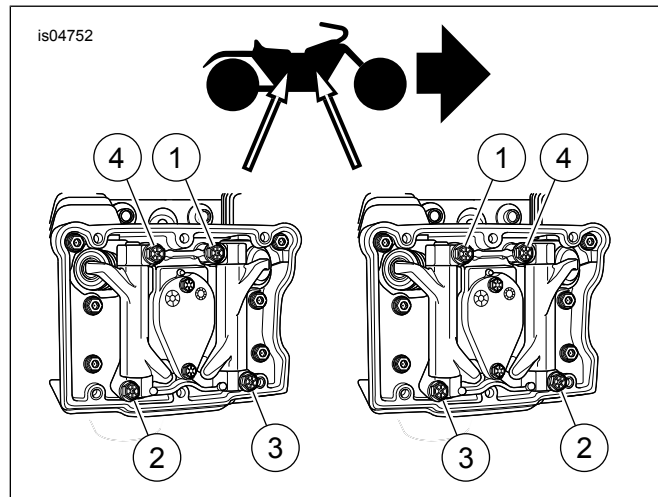

Figure 4. Loosen Four Rocker ARM Bolts 1/4 Turn in Sequence Shown
- e. Stop engine rotation when the flow of air through the spark plug hole stops. Direct the beam of a small flashlight into the spark plug hole to verify that the piston is at TDC. Both intake and exhaust valves are now closed and the push rods (17) are in the unloaded position (and should turn freely).
6. Remove the two breather bolts (4) to release the breather assembly (5 or 6) from the rocker arm support plate (12). See SUBASSEMBLY SERVICE AND REPAIR, BREATHER ASSEMBLY in the Service Manual.
7. Alternately loosen each of the four rocker arm support plate bolts (7) **just 1/4 turn**, following the sequence shown in Figure 4. Continue turning the bolts in 1/4 turn increments, following the same alternating sequence until the bolts are loose.